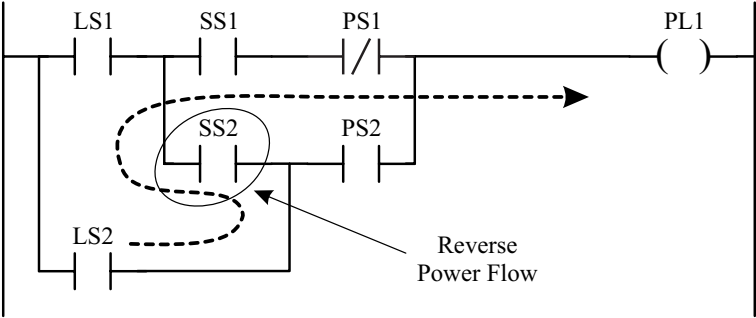
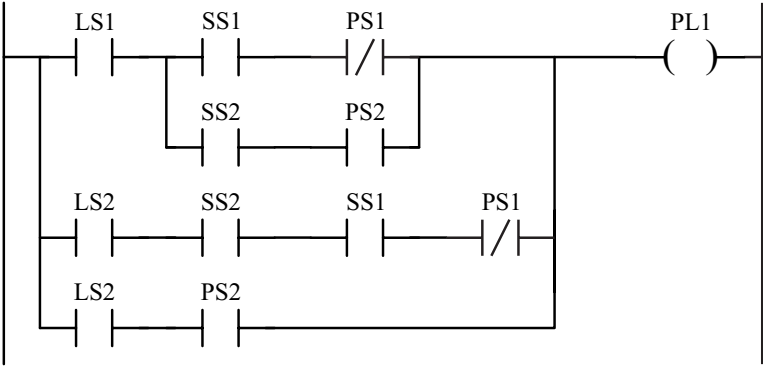

Figure 2.16. Reverse power flow in ladder logic.
Figure 2.17. Reverse power flow in ladder logic corrected.
4. Reverse power flow in the contact matrix is **not** allowed. When electromechanical relays are used to implement ladder logic, power can flow either way through the contacts. For example, consider the ladder logic in Figure 2.16. If implemented with electromechanical relays, power is allowed to flow right-to-left through the contact for SS2. When solid state relays replaced electromechanical relays for ladder logic, power can flow only one way (left-to-right) through the contacts. This restriction was carried to PLC ladder logic. If the reverse power flow path is truly needed, then insert it as a separate path, where the power flows from left to right. The reverse power flow path in Figure 2.16 is added as a separate path in Figure 2.17.